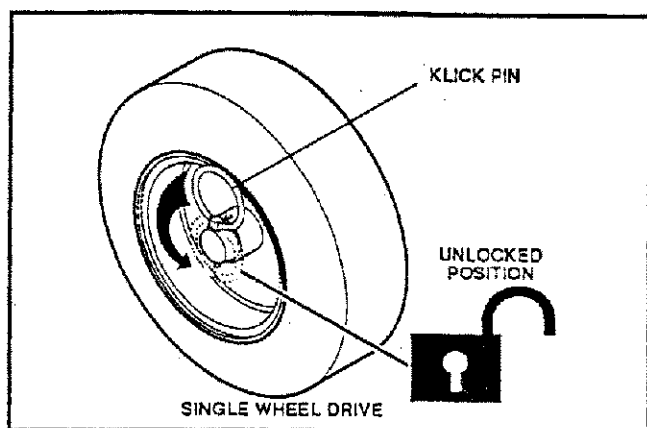

FIG. 6-OP
- For ease of maneuverability in light snow conditions, disconnect the click pin from the wheel locked position and push into the single wheel drive (unlocked axle hole only) position (See FIG. 6-OP).